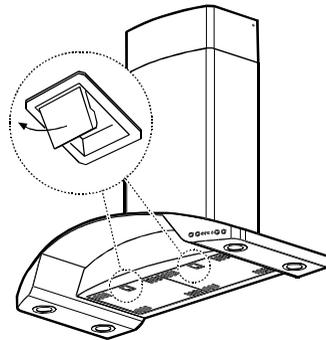

Fig. 3
- Pull the spring-lock and extract the grease filter. Fig. 3.